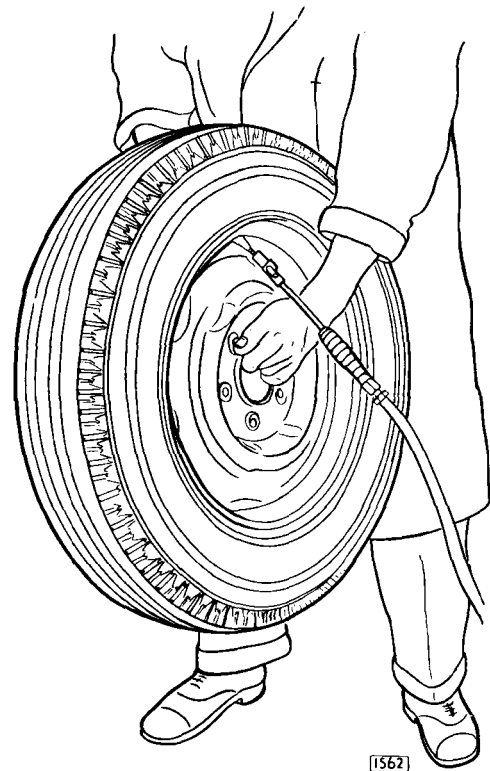

Fig. 17. Inflating and bouncing wheel to seal beads.
2. Connect air line and with the valve core removed inflate with the wheel and tyre upright. If the first rush of air does not seal the beads, bounce the tread of the tyre at several points round its circumference with the air line attached. (Fig. 17.)